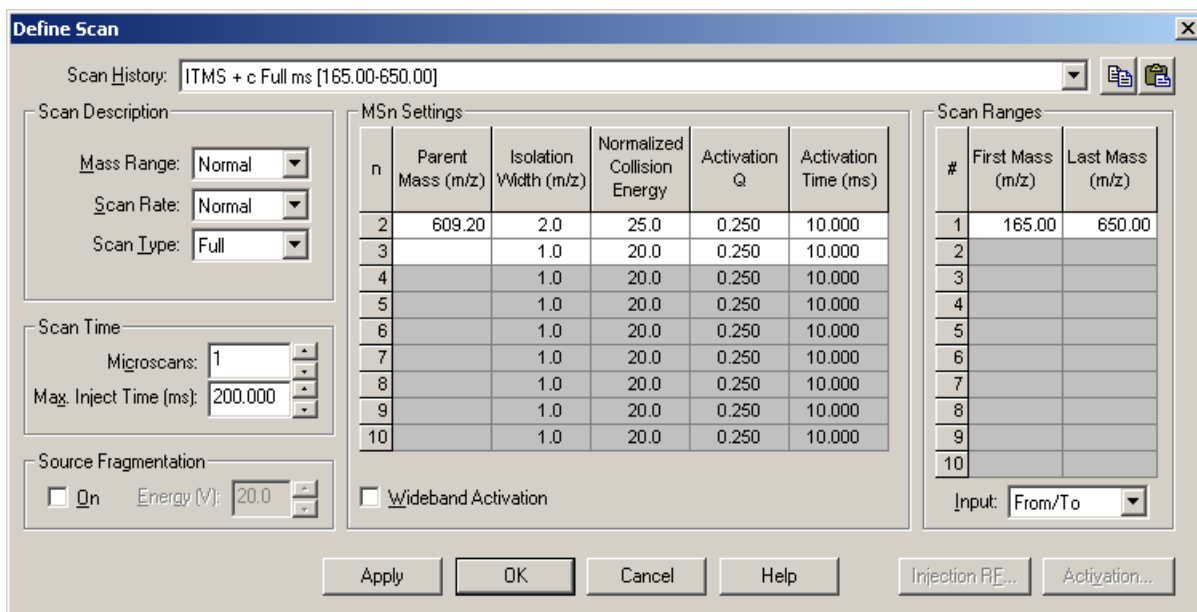

Figure 39. Define Scan dialog box, showing typical settings for acquiring MS/MS data in the Full scan type on reserpine
9. In the Tune Plus window, observe the mass spectrum of the product ions of reserpine (or your analyte of interest). If necessary, increase the value for the Normalized Collision Energy in increments of 5% to cause the clear display of product ion mass spectrum. (After each change in value, click **Apply** to implement the change.) See Figure 39.